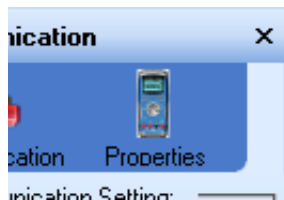

Figure 6 Properties panel
- 8 You can check the meter properties by clicking and selecting **Properties** to view the meter properties panel (Figure 6).